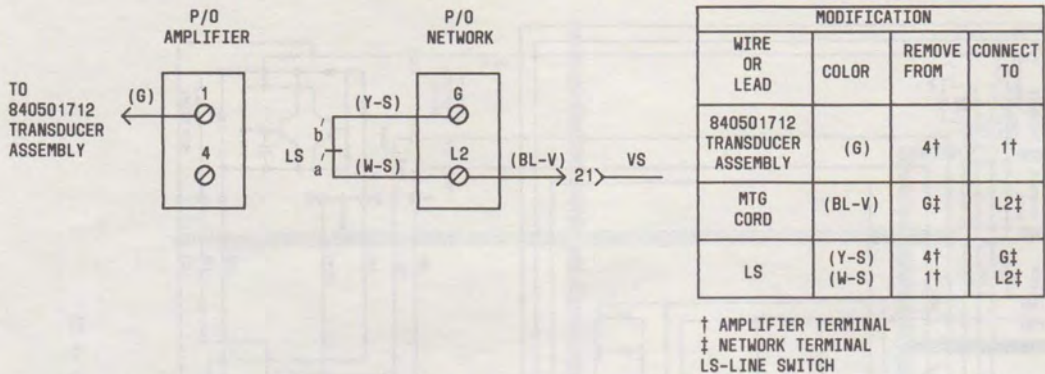

Fig. 17—Telephone Set Connections for Automatic DO-NOT-DISTURB Feature
- (1) This feature permits a station user to block any incoming dial intercom and DSS calls. Use of this feature alerts the calling party that the called party does not want to be disturbed. This is accomplished by returning an audible tone (500 Hz, continuous) to the calling party whenever either the automatic or manual DND feature is activated. In COM KEY 2152 System, a visual signal is also provided on the DSS console when the manual DND feature is in use. The COM KEY 2152 System currently provides a manual DND option but it is only available on station sets that are equipped with the HFAI option. The major difference between the automatic and manual DND option is that automatic is activated only when the station set is off-hook, while the manual can be activated with the station on-hook or off-hook.
- (2) Refer to (Fig. 17) for telephone set modification for automatic DND feature.
- (3) Refer to Section 518-450-100 for necessary KTU and KSU connection information with the DND feature.
- (4) For manual DND feature with these telephone sets, a 688A key must be ordered separately and installed as follows: